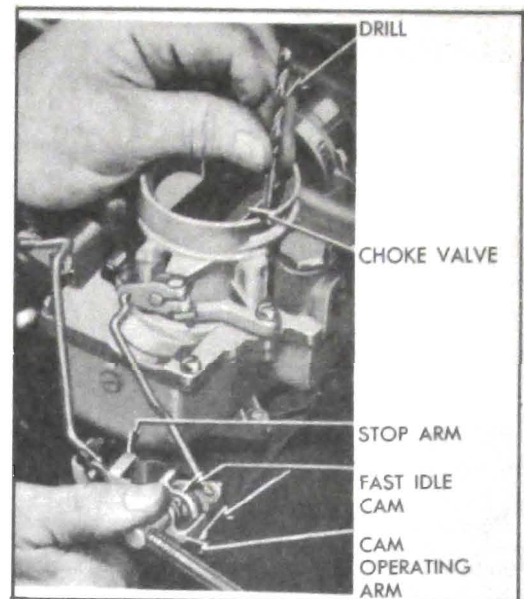

Figure 3-25—Checking Carter Choke Unloader Adjustment
If the engine becomes flooded for any reason, the choke valve can be partially opened by depressing accelerator pedal to the full extent of its travel. This causes a tongue or arm on the throttle lever to contact and rotate the fast idle cam, which forces the choke valve open. See figure 3-25.
4. Open throttle until stop arm on throttle shaft lever contacts boss on body flange, then check clearance between upper edge of choke valve and wall of air horn, using a  $\frac{3}{16}$ " gauge (No. 12 drill). See figure 3-25.